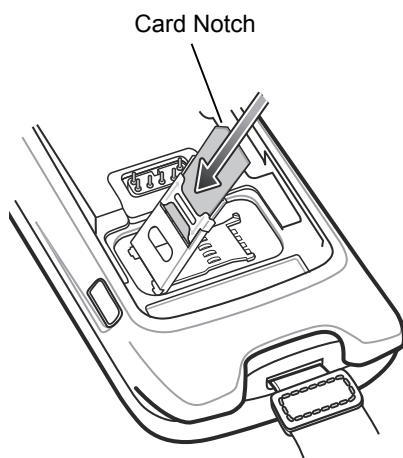

Figure 1-6 *Inserting the SIM Card*
4. Insert the SIM card, as shown in Figure 1-6 into the holder door with the contacts facing down and the card notch facing up.